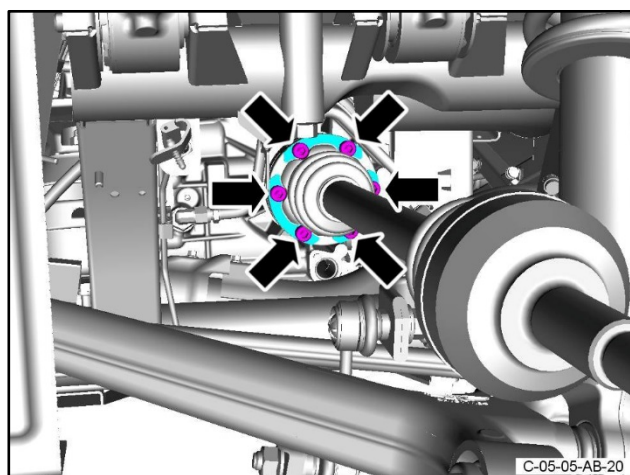

Figure 15
24. Remove and discard the six Allen head bolts that attach the left drive shaft flange to the transaxle. Collect the three locking plates from the drive shaft flange (refer to Figure 15).